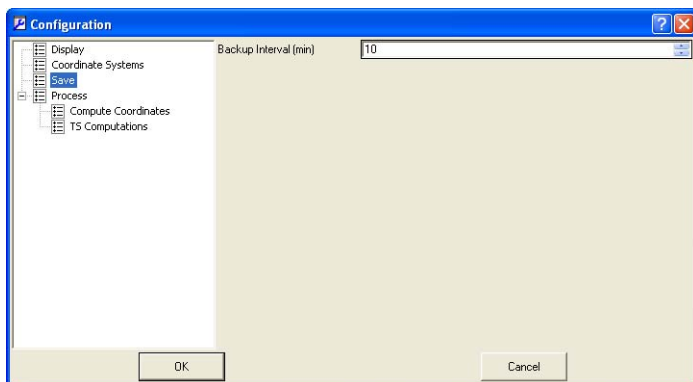

Figure 3-11. Select File Backup Properties
4. In the Save pane, select the interval in minutes for saving a backup copy of the current file (Figure 3-11). Click **Ok** to save and exit. Topcon Link uses the following rules for saving/deleting backup copies: